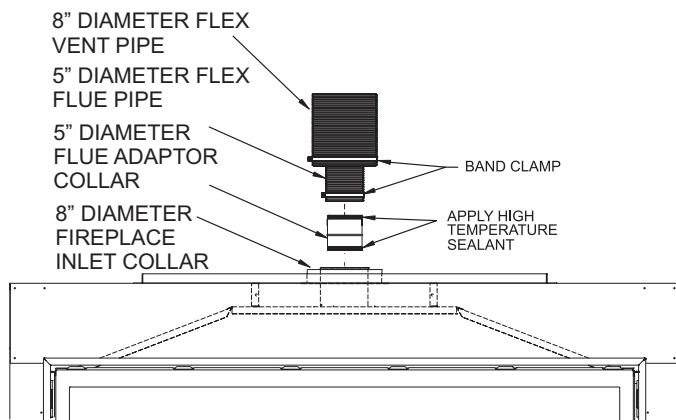

Figure 56
- Apply sealant to the outside of the flue pipe adapter and connect to the flexible venting. Then insert the adapter into the fireplace flue. Secure flue adapter to the fireplace flue with a minimum of 2 screws provided. **See Figure 56.**